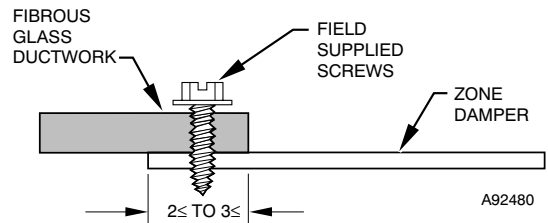

**Fig. 6 – Insulated Round Flexible Ductwork**
4. If dampers are applied in an unconditioned space, insulate them using 1- 1/2 inch to 2 inch insulation (See Fig. 6).